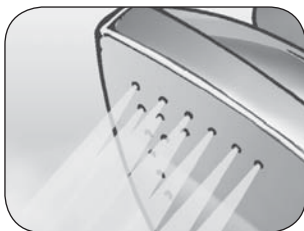

Fig. 5
- 2 Press the boiler on-switch (L).
- 3 Set the steam control knob (K) to the desired value.
- 4 Press the switch (O) to turn on the iron.
- 5 Select the desired temperature using the thermostat knob (F).
- 6 Wait the light (M) is on before using the steam.
- 7 Before applying a jet of steam to the article to be ironed, release two or three good jets of steam towards the floor to stabilise the steam flow (Fig. 5).